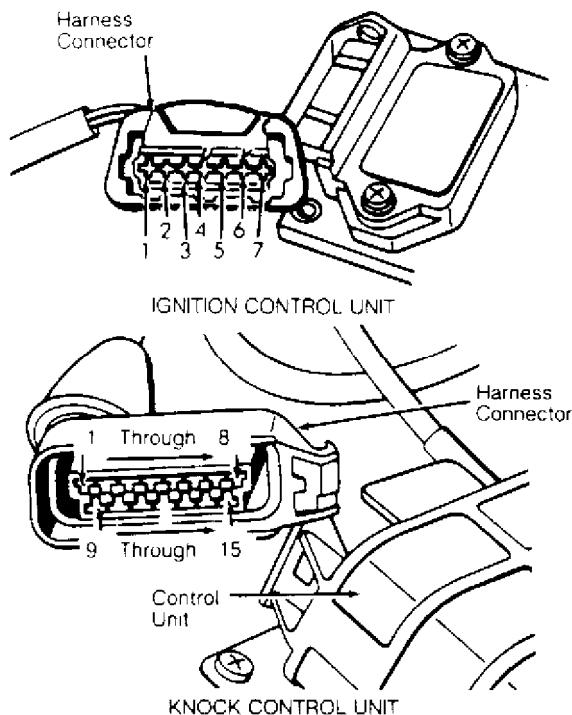

Fig. 4: 7-Pin ICU Connector & 15-Pin Knock Sensor Connector
2) If voltage is not correct, check harness between control unit and hall sending unit for open or short. If no open or short exists, access rear of ignition control unit connector. With ignition on, check voltage on terminals No. 4 and 5 of ignition control unit. See Fig. 4. If no voltage is present at either terminal, check voltage supply to and from ignition coil terminal No. 15. of knock control unit.
5) If readings are not identical, check wire harness from Hall sending unit to knock control unit and from knock control unit to Hall ignition control unit. See Fig. 4.